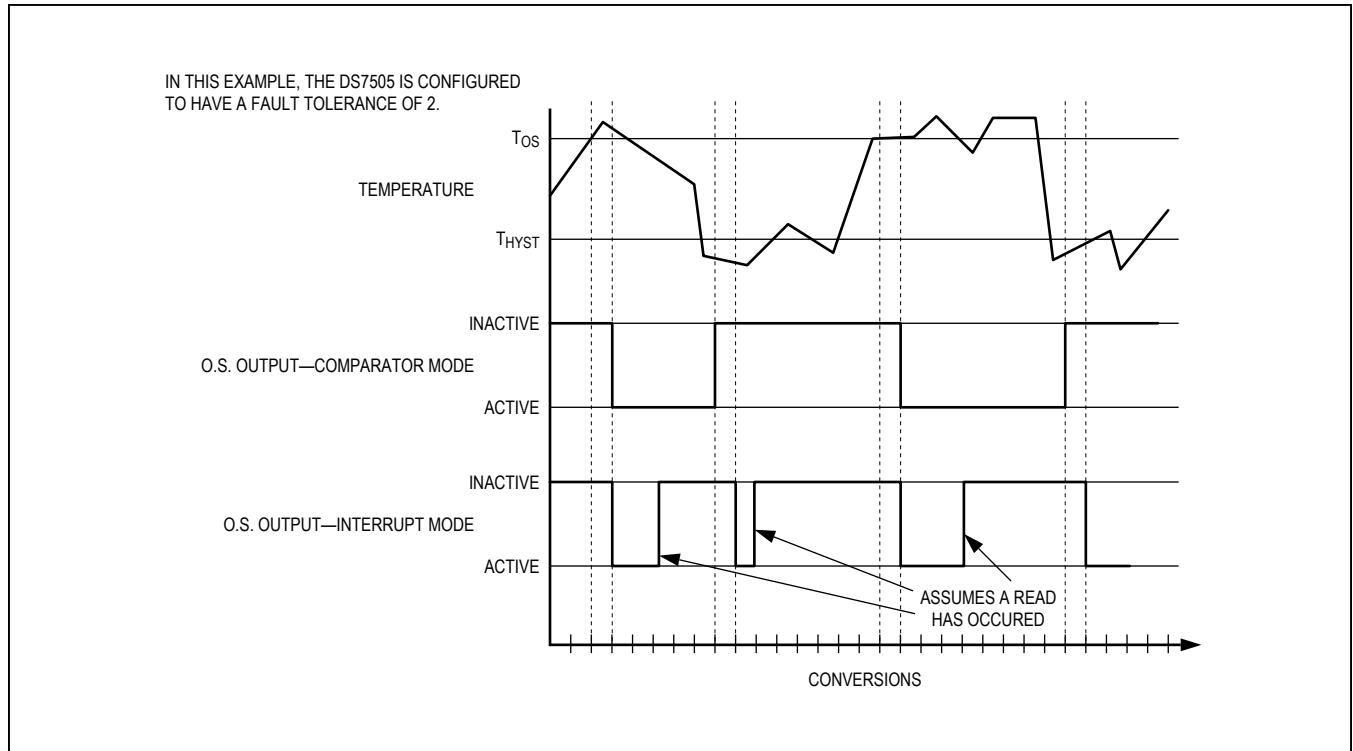

Figure 4. O.S. Output Operation Example
When the thermostat is in comparator mode, O.S. can be programmed to operate with any amount of hysteresis. The O.S. output becomes active when the measured temperature exceeds the T_{OS} value a consecutive number of times as defined by the F1 and F0 fault tolerance (FT) bits in the configuration register. O.S. then stays active until the first time the temperature falls below the value stored in T_{HYST} . Putting the device into shutdown mode does not clear O.S. in comparator mode. Thermostat comparator mode operation with FT = 2 is illustrated in Figure 4.
measured temperature falls below the T_{HYST} value a consecutive number of times equal to the FT value. Again, O.S can only be cleared by putting the device into shutdown mode or reading any register. Thus, this interrupt/clear process is cyclical between T_{OS} and T_{HYST} events (i.e. T_{OS} , clear, T_{HYST} , clear, T_{OS} , clear, T_{HYST} , clear, etc.). Thermostat interrupt mode operation with $FT = 2$ is illustrated in Figure 4.